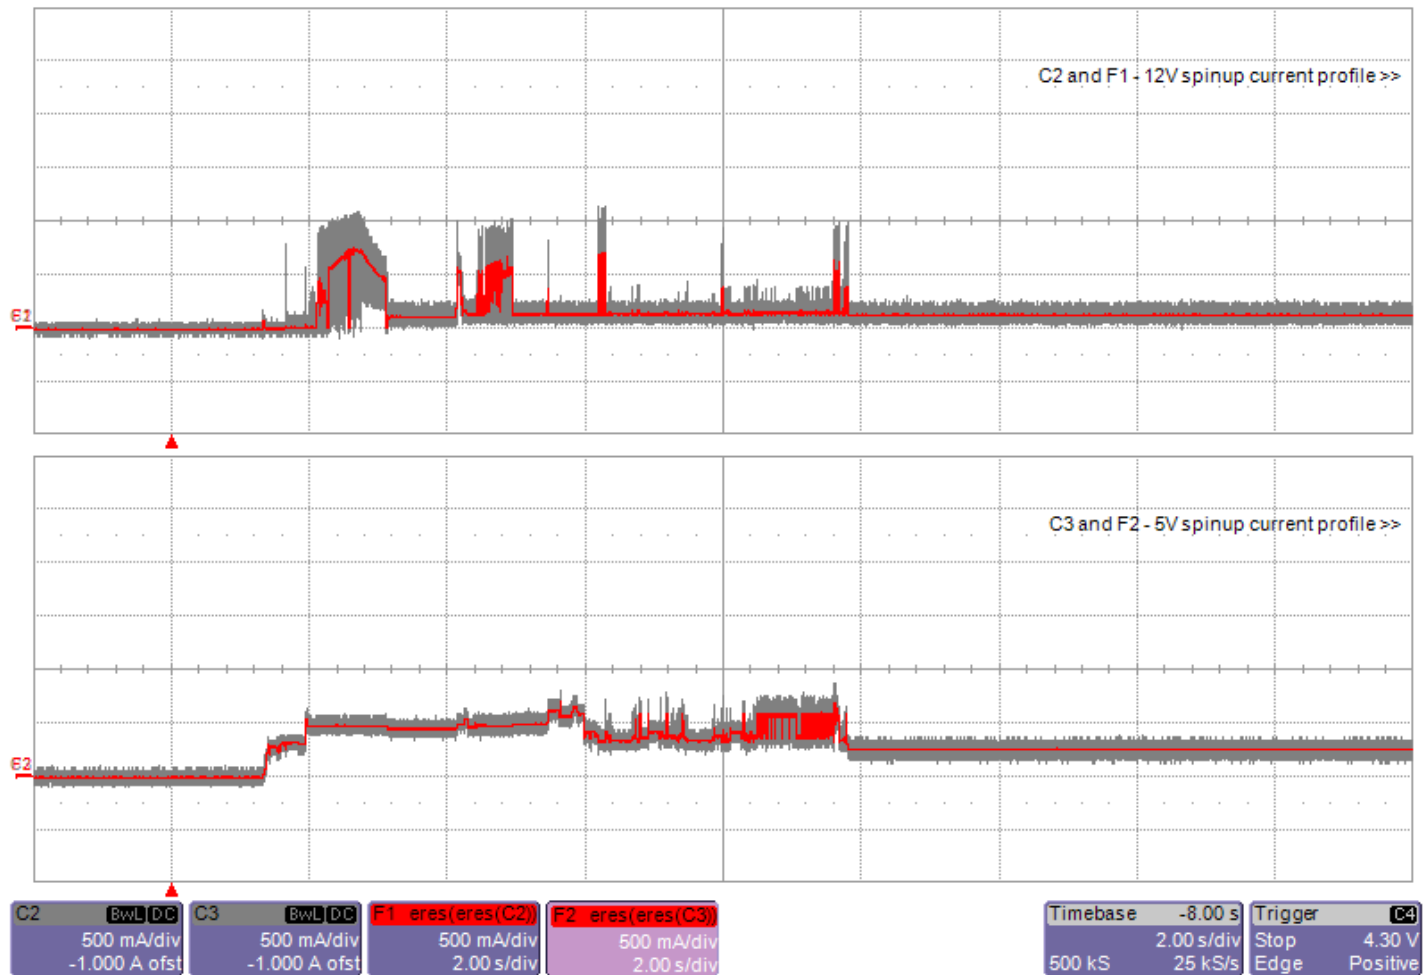

Figure 1. Current profiles for 300GB models
- [3] See +12V current profile in Figure 1 (for 300GB models).